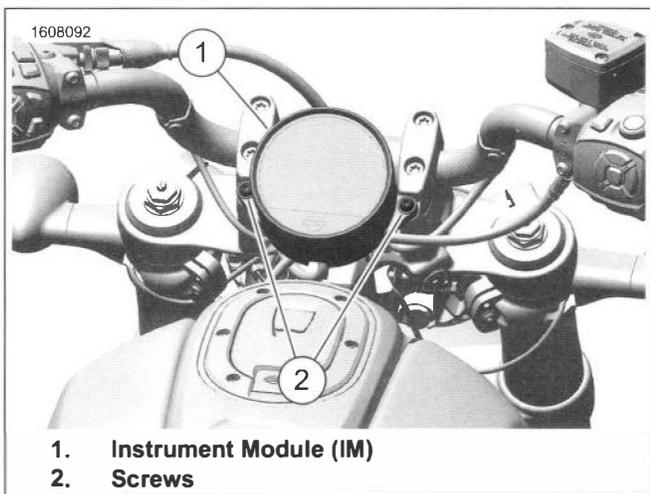

Figure 8-34. Instrument Module
1. See Figure 8-34. Remove screws (2).
4. See Figure 8-34. Install screws (2). Tighten.